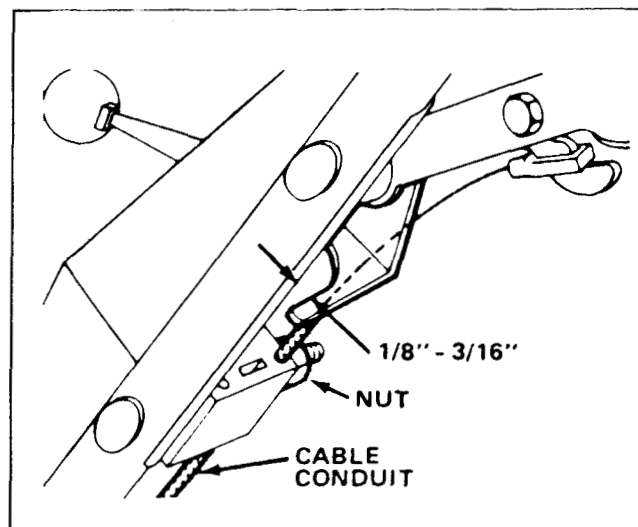

Figure 25
2. **Check Adjustment** - (See Figure 25.) Move the control bar toward the handle until slack in the wire is removed. Gap between brake lever and handle must be 3-5 mm (1/8" - 3/16").